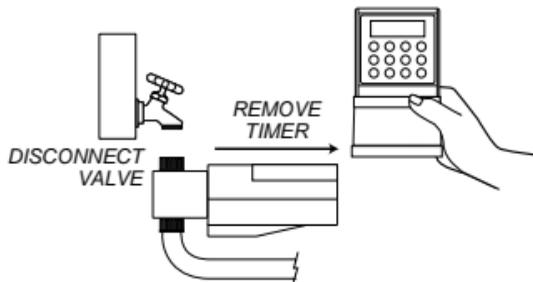

Figure 13
- Remove the timer and valve by unscrewing the brass swivel coupling for timer. [See Figure 13]